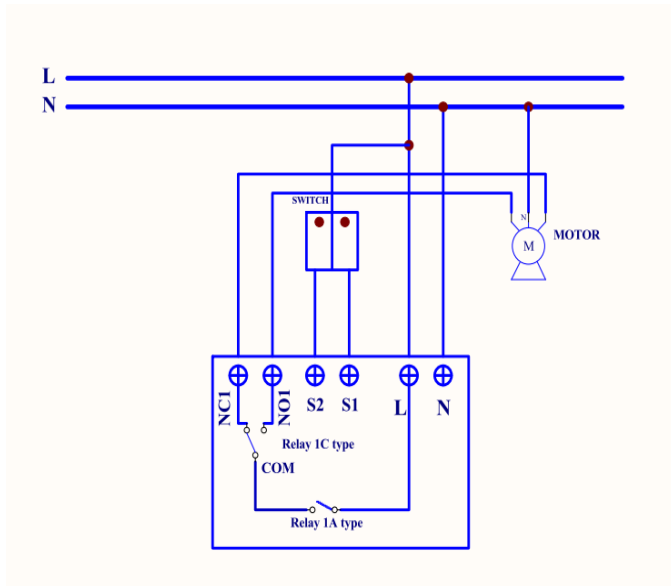

Fig 1. Assembling
2. Connect the wall switch to the PAN08 as Fig1 .